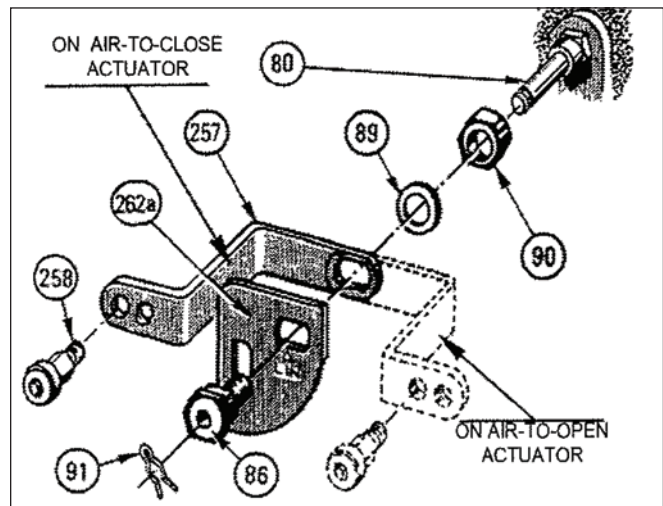

Figure C2 - Cam, rear lever and bearing S/A
### Position of the cam (262), rear lever (257) and bearing (258) 5/A (figures C2, C3, and C7)
The configuration of these three parts assembled depends on the valve action (air-to-close or air-to-open). Figures C2 and C3 show for each case the positions of these elements.
- Unscrew four mounting screws of the relay and remove it from case. Remove the cover of the valve (250).
- Position the support plate (254) as required in front of the positioner back.
- Introduce the rear lever (257) (without bearing) into the support plate slot.
- Fasten the plate to the positioner with three pan head screws (256).
- Replace the bearing (258) on the rear lever using a 6 mm fork wrench (see figures C2 and C3 in order to choose the proper introduction hole for the valve action required).